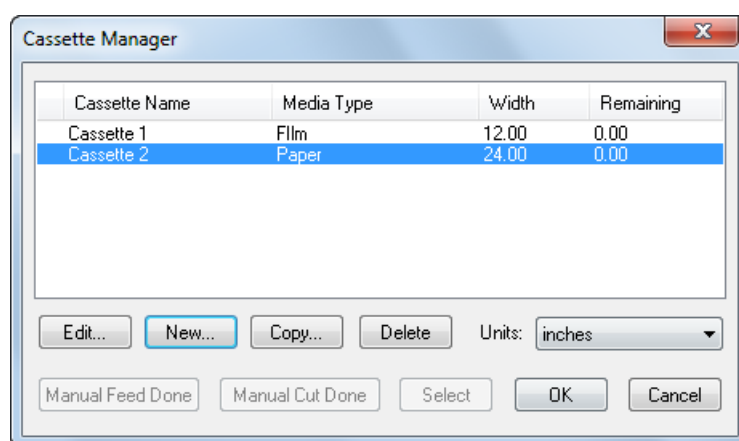

Figure 9.4 Cassette Manager dialog box
Before processing any jobs, you need to tell the RIP about the cassettes you are using and give details of the media currently in each cassette. You do this from the Cassette Manager dialog box. Click the **Cassette Manager** button in the Edit Page Setup dialog box or choose **Output > Cassette Manager** to open the Cassette Manager dialog box, as shown in Figure 9.4.
- If you perform a manual operation by using controls on the output device, you must inform the RIP. Display the Cassette Manager and click the button **Manual Cut Done** or **Manual Feed Done** whenever you perform the corresponding manual operation. See Figure 9.4, page 270, and the following description of the buttons.